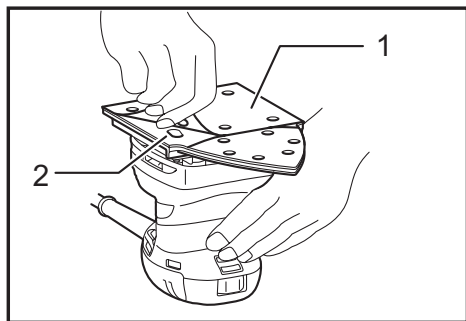

Fig.2
- Fig.2: 1. Velcro sandpaper 2. Base